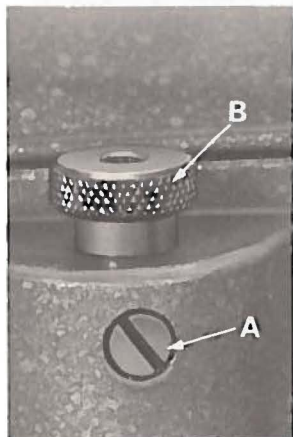

Fig. 12
Fig. 12 illustrates the stitch regulator. For timing the hooks, it is recommended the regulator be turned to produce shortest stitch length. To do this, loosen lock screw (A) and turn the stitch regulator (B) counterclockwise as far as possible. Lock in position by tightening lock screw (A).
By sewing trials, adjust the needle thread tension (A, Fig. 20), check spring pressure, position barrel (A, Fig. 19) and set the stitch length (B, Fig. 12) to required specifications.